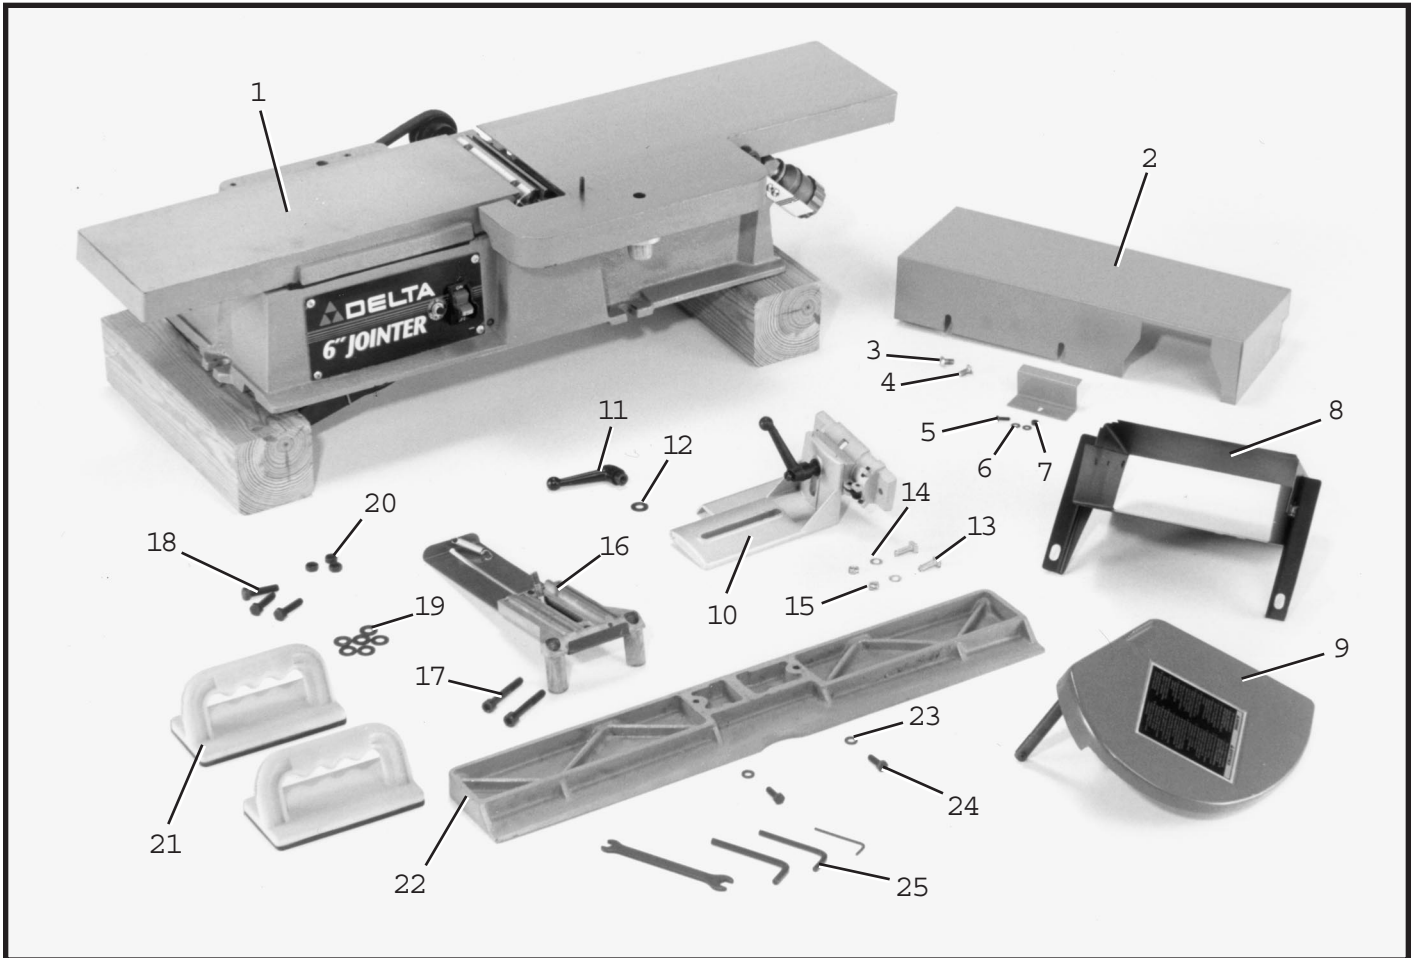

Fig. 4
The 6 Motorized Jointer is shipped complete in one container. Carefully unpack the jointer, stand, and all loose items from the container. Figs. 4 and 5 illustrate the items supplied with the jointer.
2. **IMPORTANT:** When removing the jointer from the shipping container, DO NOT place the jointer on a flat surface. Support the jointer at both ends with 4 x 4 lumber or similar material, as shown in Fig. 4. This will prevent any damage to the motor assembly, which is located on the base of the jointer.